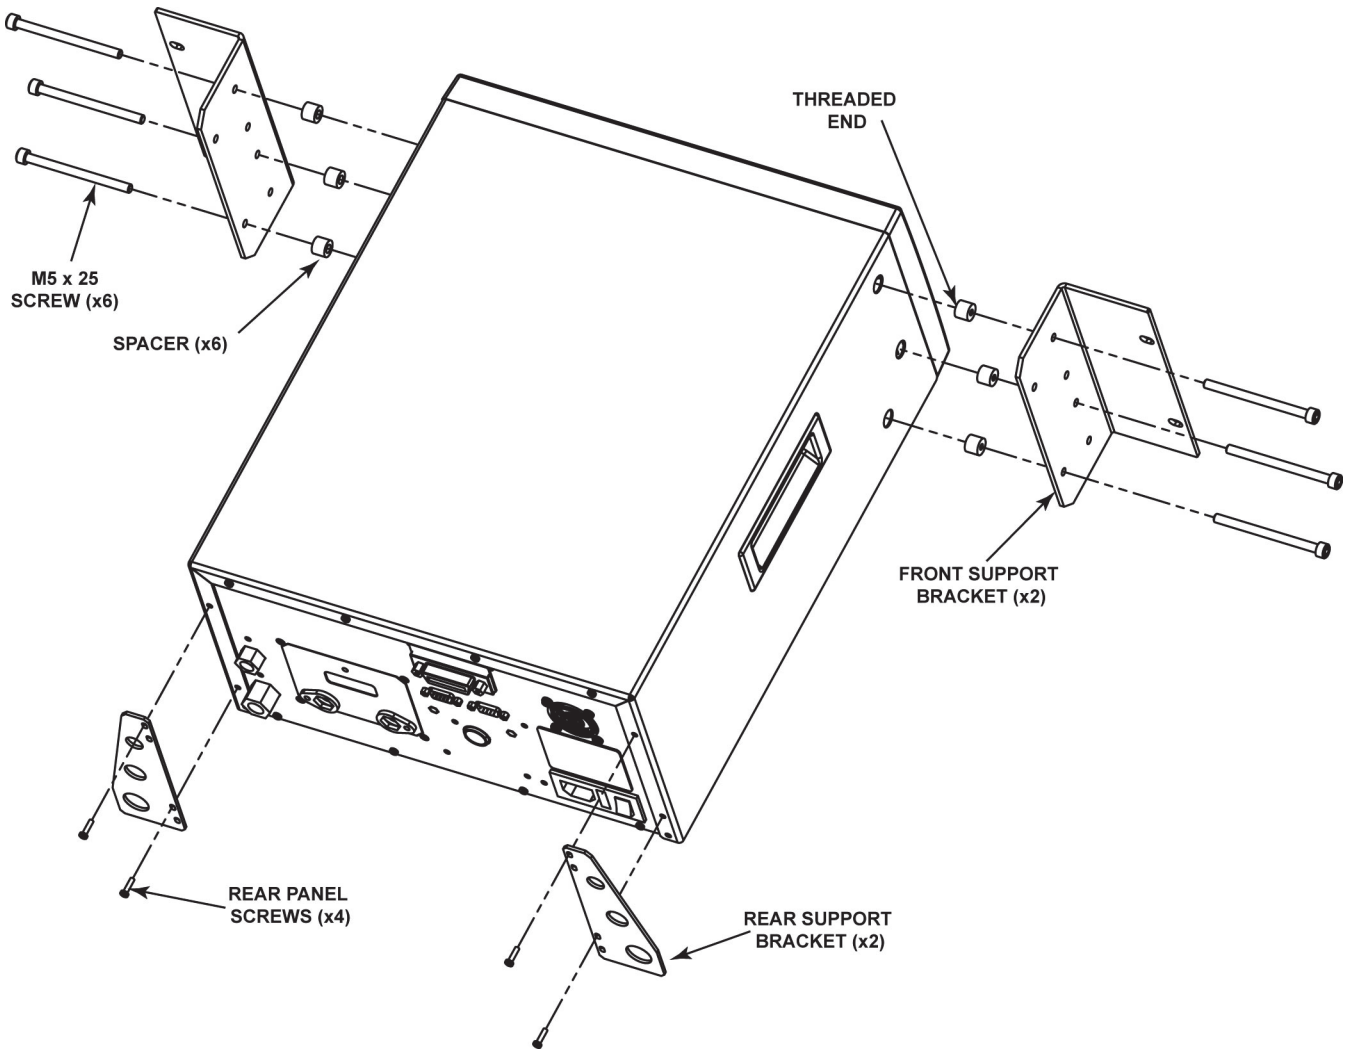

Figure 3: Installing the PPC4 Brackets
- ❺ **Attach the front support brackets:** Drop in spacers (x6) where the side plugs were. Place one front support bracket (x2) on each side of the PPC4. Position each bracket with the 3 holes on the side. Attach brackets to sides using the M5 x 25 screws into the spacers (See Figure 3).
- ❻ **Attach the rear support brackets:** Place one rear support bracket (x2) on the back of the PPC4. Position each bracket by lining up with the appropriate holes on the back of the PPC4. Attach brackets (x2) to the PPC4 back panel using four (4) of the PPC4 rear panel screws (See Figure 3).